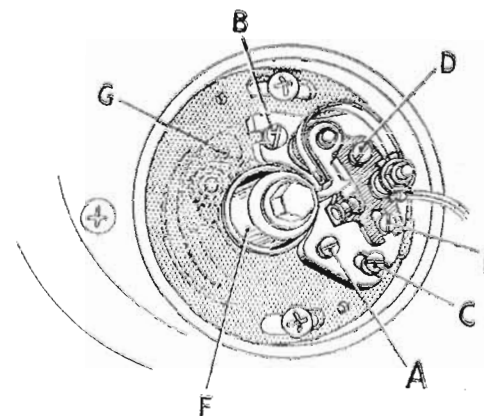

Fig. 8. The contact breaker (part of the auto-advance mechanism is shown behind the mounting plate).
Contact Breaker (Fig. 8)
Apply a very small amount of thin grease to the exposed surface of the cam (F). Do not use an excessive quantity because it is most important that the contact points are kept free from lubricant, otherwise misfiring and difficult starting may occur. At the same time, turn the engine until the cam slot is uppermost and apply one spot of clean engine oil for the purpose of lubricating the cam spindle. A further single spot of oil should be applied to the pivot of the governor weights (Fig. 8).
Inspect the mechanism when checking the contact breaker adjustment, and make sure that the two governor weights (Fig. 8) move freely. Oil each bearing (G) with a drop of light oil. Do not over-lubricate or the excess oil may find its way on to the contact breaker points.
If the ignition setting is not correct, slacken the two screws (A) and (B) Fig. 8, which secure the plate carrying the contact breaker assembly and adjust the eccentric pin (C) until the points are just opening.
With the engine running at a speed high enough to ensure that the automatic ignition control has moved the ignition timing to the fully advanced position, the line and pointer should coincide when examined under the flashing light of the strobelight, if the ignition setting is correct. Should adjustment be required, slacken the two screws (A) and (B) Fig. 8, which secure the plate carrying the contact breaker assembly and adjust the eccentric pin (C) until the points are just opening and the above condition obtained. Retighten the screws securely.